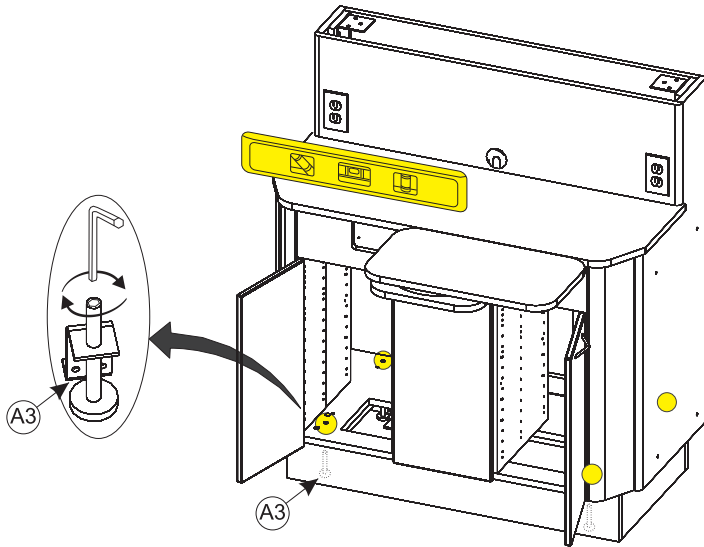

Figure 7
Adjust the (4) Leveling Feet (A3) to level the cabinet using a 5mm allen wrench. Each Leveling Foot has access to the allen head through a hole in the bottom cabinet. (see Figure 7)